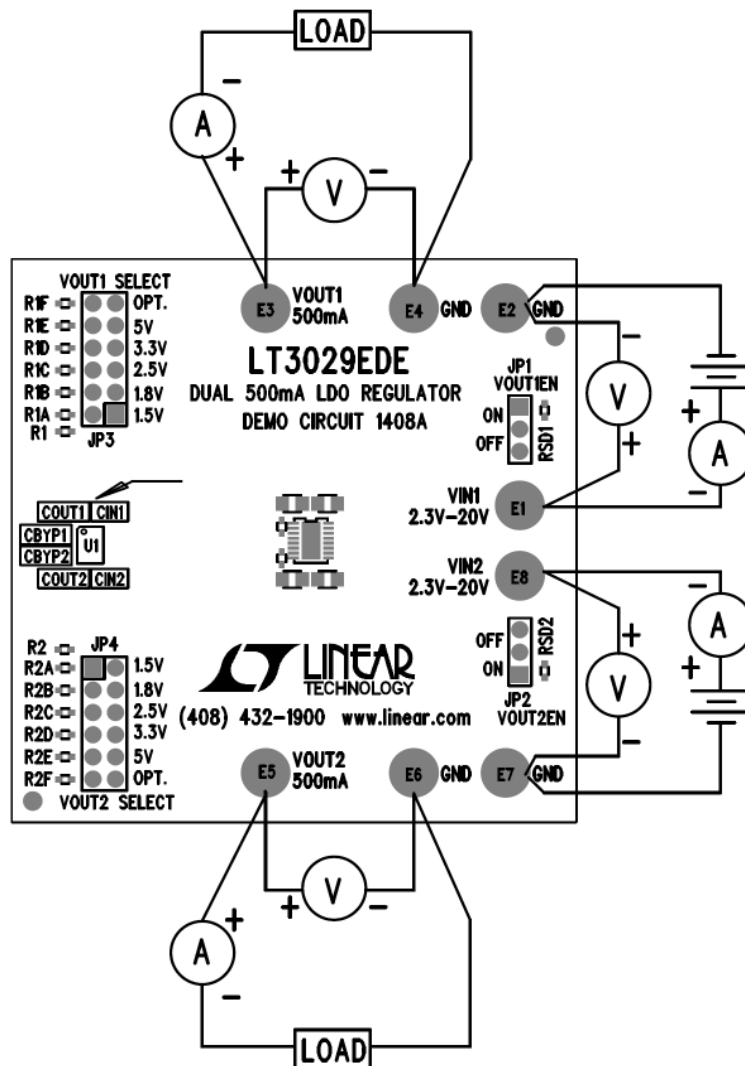

Figure 1. Proper Measurement Equipment Setup
Demonstration circuit 1408 is easy to set up to evaluate the performance of the LT3029. Refer to Figure 1 for proper measurement equipment setup and follow the procedure below:
1. Connect the power supply (with power off), load, and meters as shown in Figure 1.